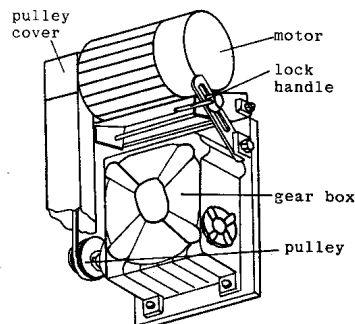

Fig .4-2 : Speed Swap Configuration
2. Loosen the lock handle under the motor. (Shown in Fig. 4-2)